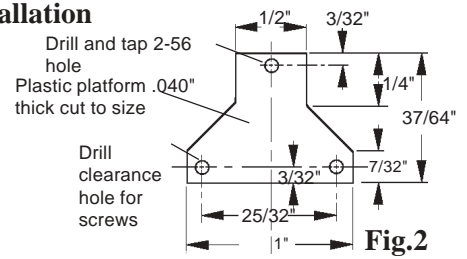

Fig.2
8. Take .040" thick plastic sheet stock and lay out a platform per Fig. 2. Cut out and drill platform mounting holes (2) and drill and tap 2-56 coupler mounting hole. Remove any burrs, surfaces should be smooth and flat.